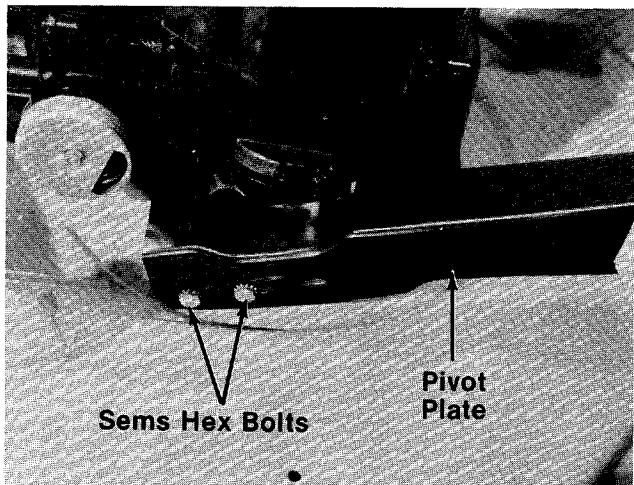

FIGURE 14.
1. Loosen (do not remove) two sems hex bolts. See figure 14.